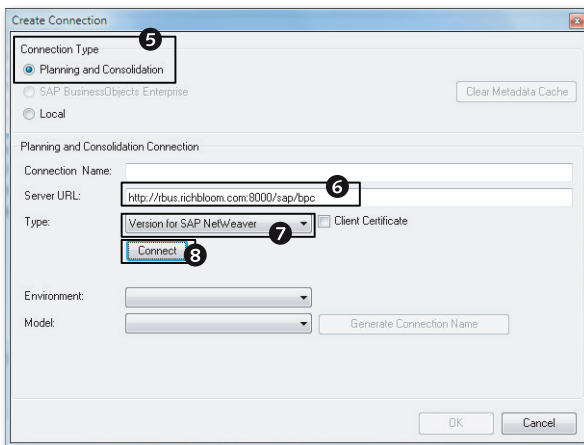

Figure 5.3 Creating a Manual Connection—Part C
5. Select the PLANNING AND CONSOLIDATION option under CONNECTION TYPE (Figure 5.3, 5). In the PLANNING AND CONSOLIDATION CONNECTION section, for the SERVER URL value, enter the URL for your BPC server (Figure 5.3, 6). For this example, we are entering “http://rbus.richbloom.com:8000/sap/bpc/”.
6. For TYPE, select VERSION FOR SAP NETWEAVER from the dropdown list when you are connecting to a NetWeaver BW system (Figure 5.3, 7). Click on the CONNECT button (Figure 5.3, 8).